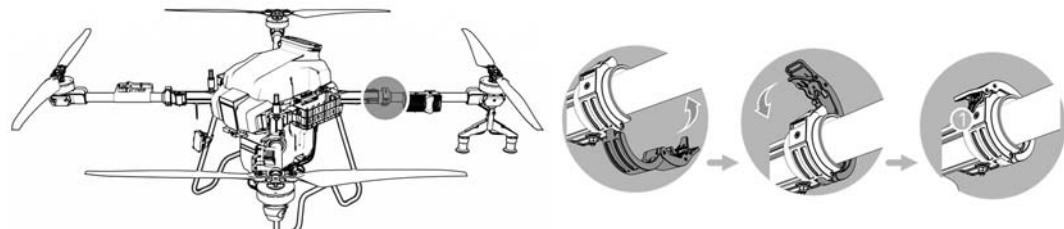

Figure 1-34 Arm Clamp
Step4: Make sure the clamping component is tightened, as shown in Figure 1-34.;